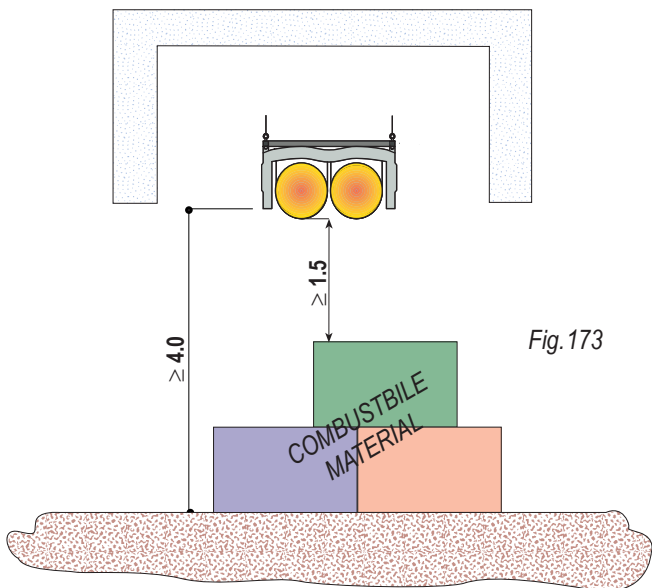

Fig. 173
- 3) The minimum vertical distance of the radiant belts from combustible material must be more or equal to 1.5 m., the minimum distance from the floor and the radiant belt must be more or equal to 4.0 m. (fig. 173).